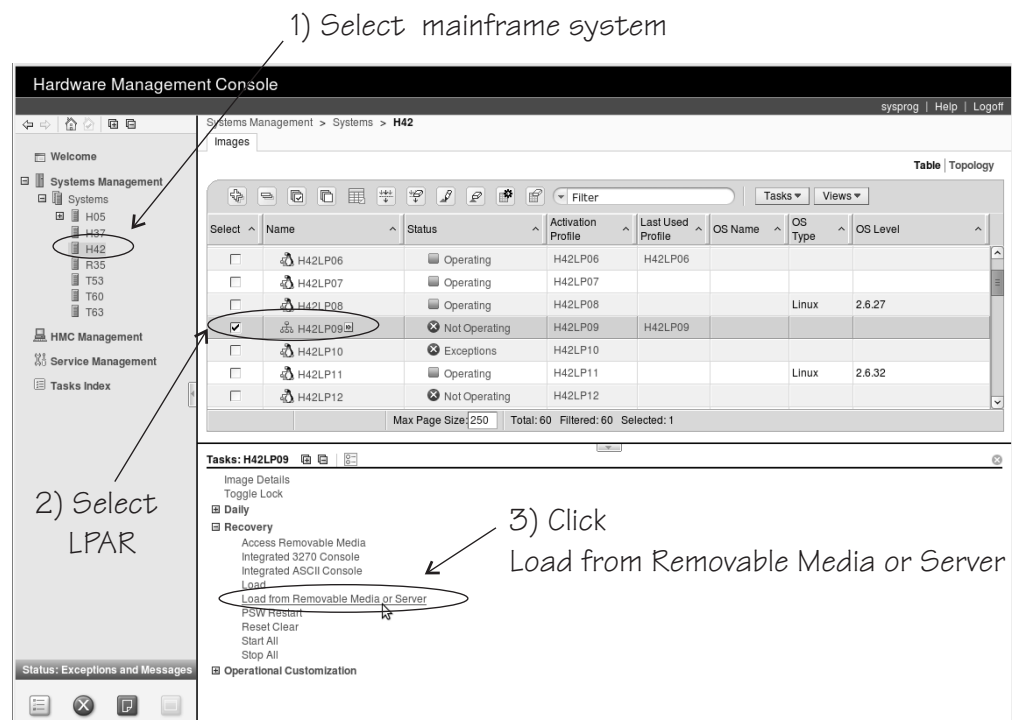

Figure 70. Load from Removable Media or Server on the HMC
3. In the **Tasks** area, expand **Recovery** and click **Load from Removable Media or Server** (see Figure 70).